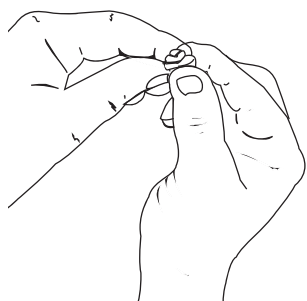

Fig. 30
2. Remove the air filter (Fig. 30).
5. Squeeze the filter to spread and remove excess oil (Fig. 30).